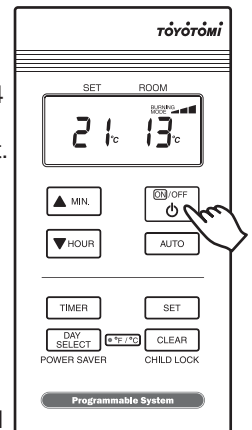

Fig. 1
1. Switching the Heater "ON" (Fig. 1)